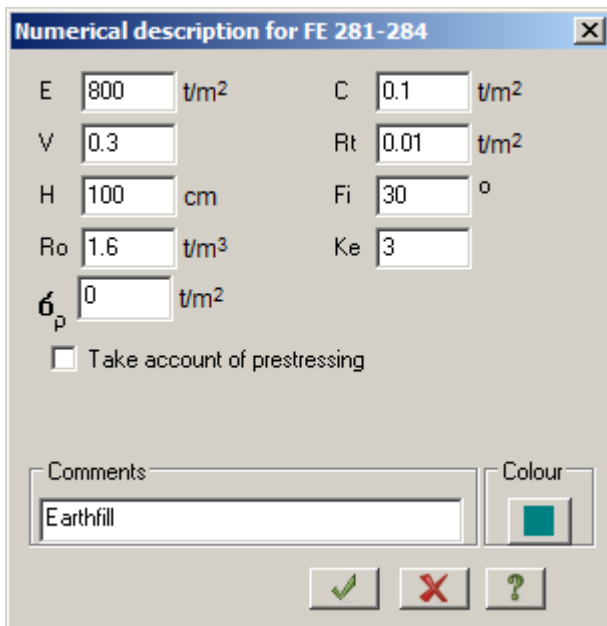

Figure 10.9 Numerical description for FE 281-284 dialog box
- ⇒ In the **Numerical description for FE 281-284** dialog box, specify the following parameters for the first layer of soil (earthfill) (see Fig.10.9):